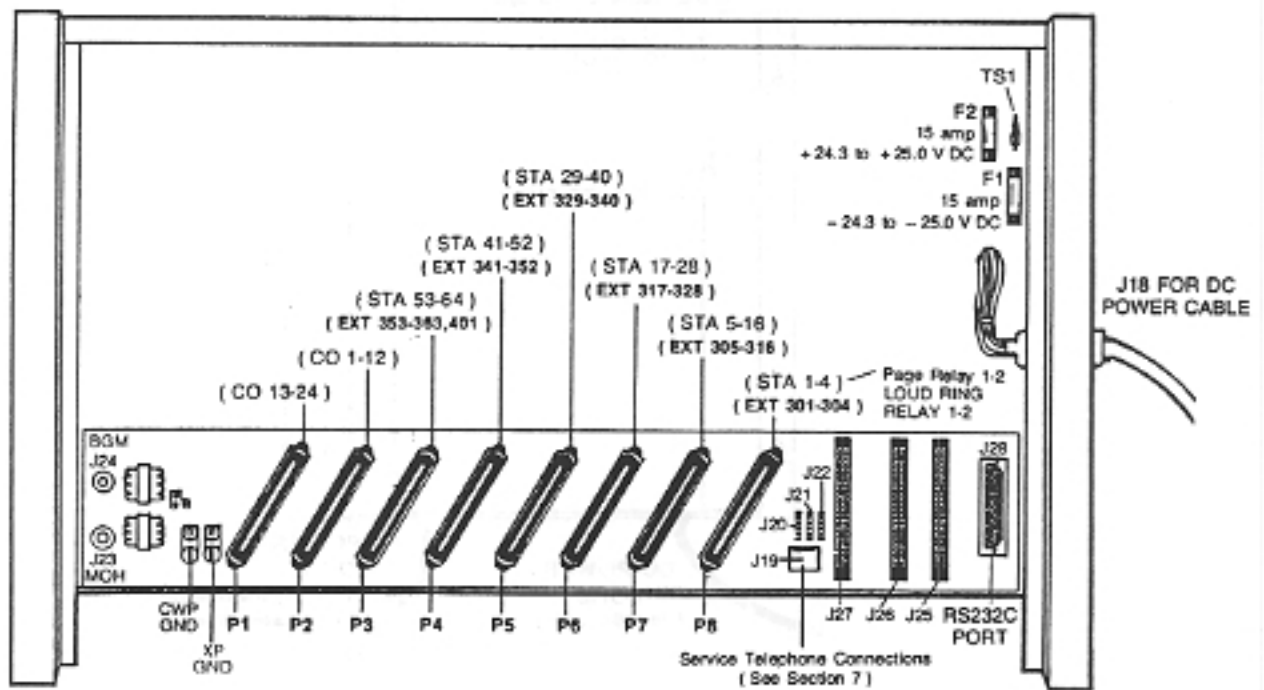
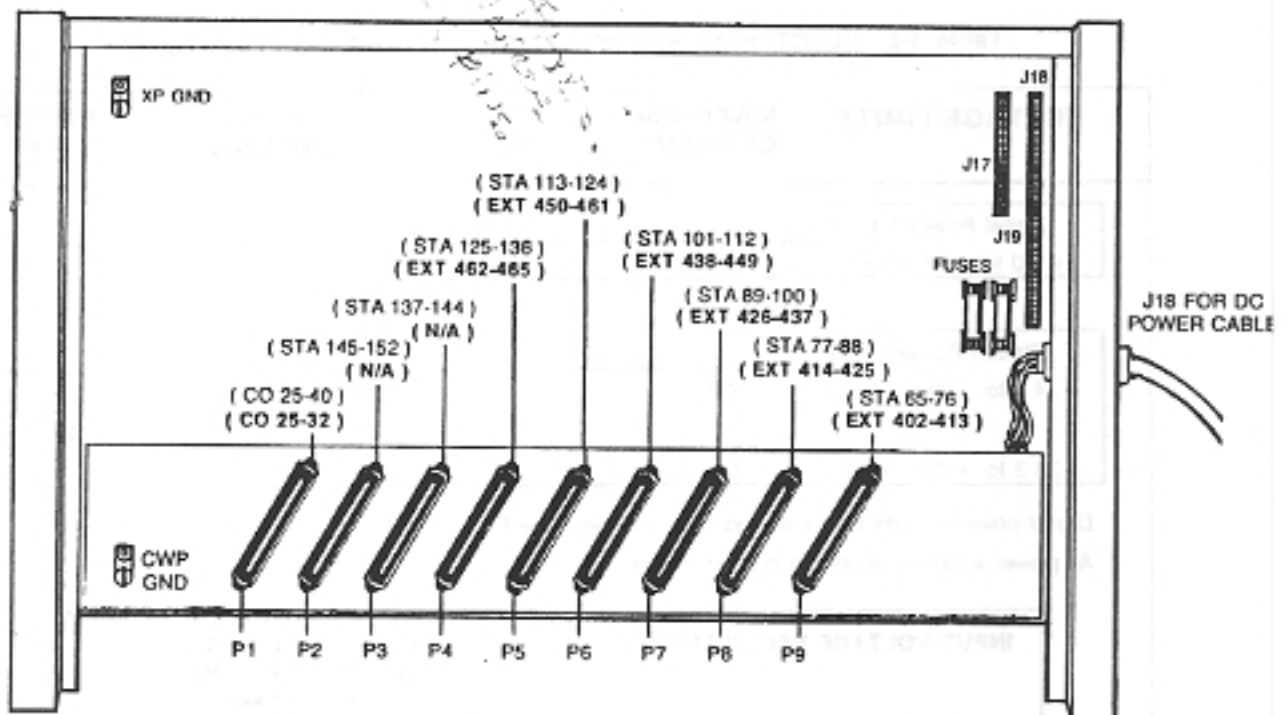

Figure 5-3 CONNECTOR PLUGS, KSU, TCX-128
Figure 5-4 CONNECTOR PLUGS, EXPANSION CABINET, TCX-128
3.10 Using 25-pair cables with a female connector on one end, insert the connector into each station plug on the KSU and Expansion Cabinet. The station plugs are labeled P3 through P8 on the KSU ( Figure 5-3 ) and P4 through P9 on the Expansion Cabinet ( Figure 5-4 ). Punchdown the cables according to Tables 5-3 and 5-4.